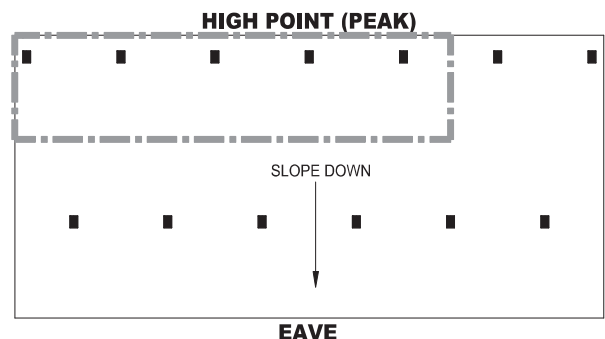

FIGURE 21C
- Calculation #2: Calculate the most hydraulically demanding 5 contiguous sprinklers along the high point. See FIGURE 21C.